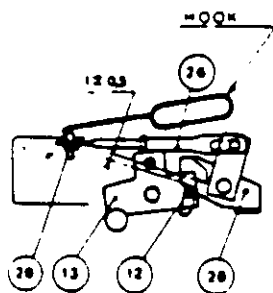
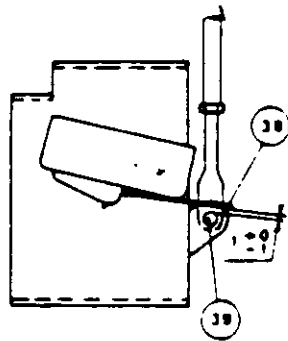

Fig. 17
Fig. 21
##### A. Tripping (Fig. 17 and 18)
- A. Limit switch for Latch Indication. Place bar in latched position as shown in Fig. 17 and 18. In this position, the limit switch contacts will be closed. Deform strip (38) Fig. 21 to provide maximum gap setting of 1 mm (0.03 inch) between strip (38) and lug (39). NOTE: This adjustment must be performed without applying voltage to the undervoltage holding coil. Following adjustment, operate voltage release device permitting release bar to unlatch. Inspect limit switch to see that contacts open.